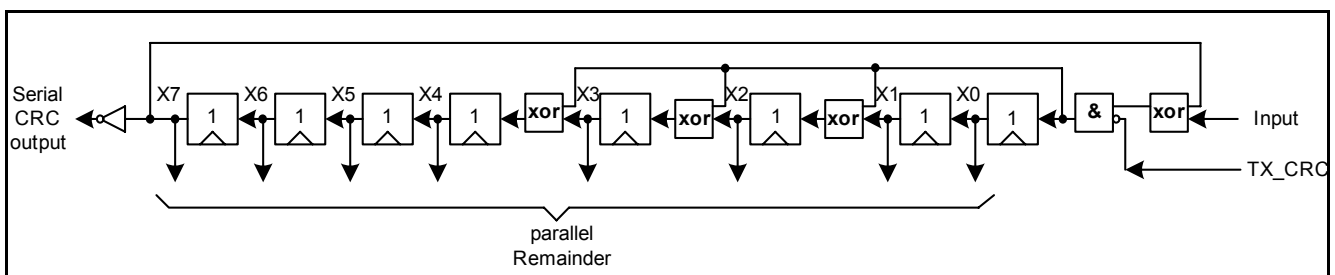

Figure 20 Fast CRC Polynomial Division Circuit
- Generator-Polynomial:  $X^8+X^4+X^3+X^2+1$ , but for the CRC generation the fast-CRC generation circuit is used (see Figure 20)